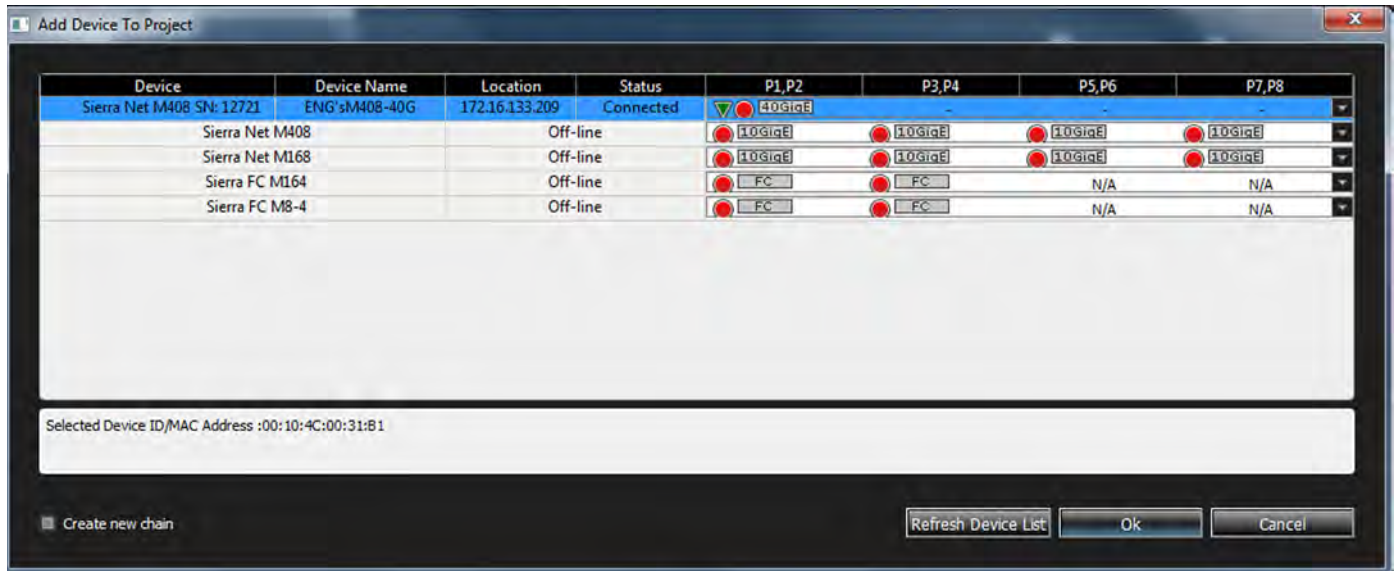

Figure 4.150: M408 Analyzer is Added to the Project
- Click the small arrow at the far right of the screen to select Port assignments. Select Jammer/Analyzer 40GigE. See Figure 4.150